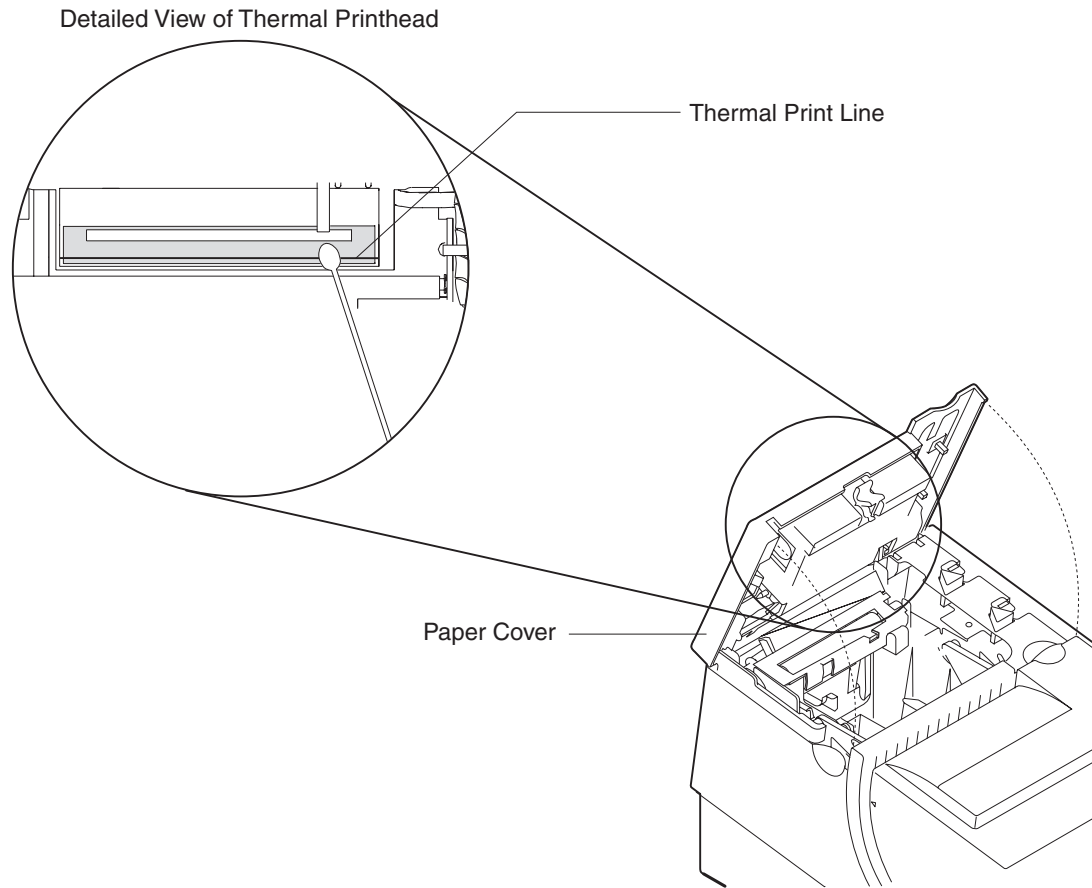

Figure 25. Printhead and Print Line Area – Models T15 and TG5
2. Using a cotton swab soaked in isopropyl alcohol, gently wipe the printhead several times on its print line and on the surrounding area. See Figure 25.